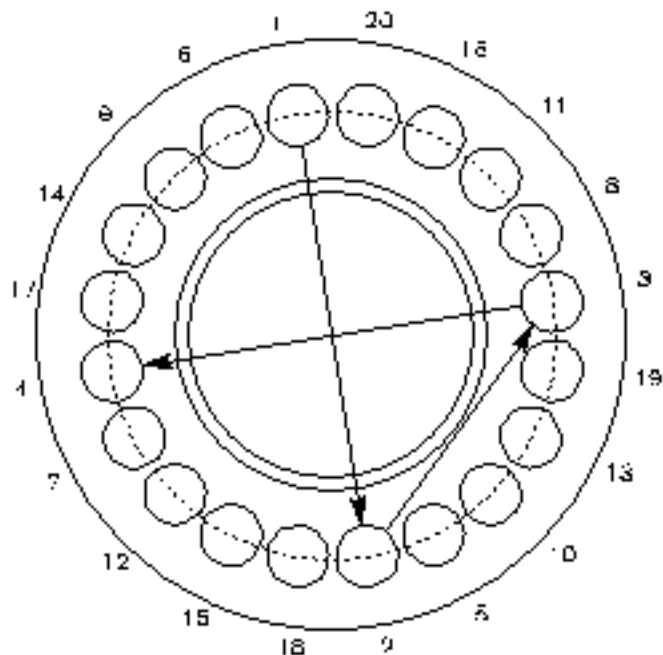

Figure 3-2. Torquing Pattern for Connections
4. Tighten all joints uniformly in a diametrically staggered pattern as shown in Figure 3-2.